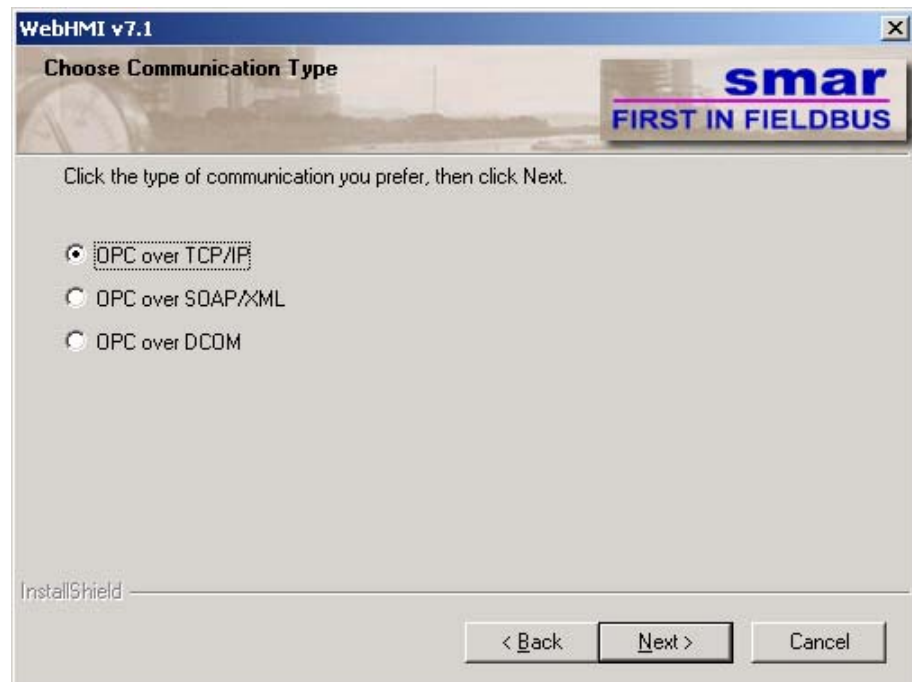

Figure 2.15. Choosing a Communication Type
8. The **Choose Communication Type** dialog box will appear, as shown in **Figure 2.15**. Choose **GenBroker over TCP (OPC over TCP)**, **GenBroker over DCOM**, or **Standard OPC** for installation.